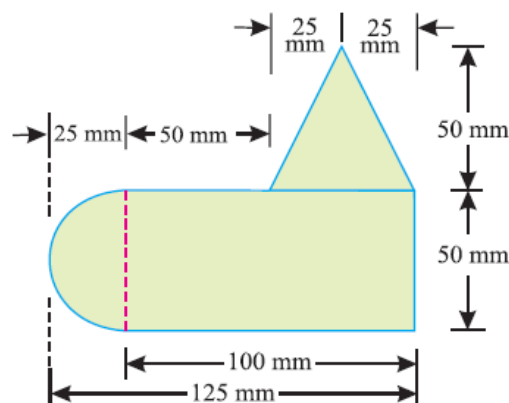

Fig. 12
1. A uniform lamina shown in Fig. 12 consists of a rectangle, a circle and a triangle. Determine the centre of gravity of the lamina. All dimensions are in mm [L4][12 M]